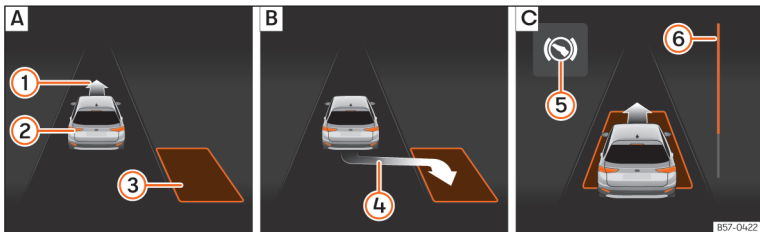
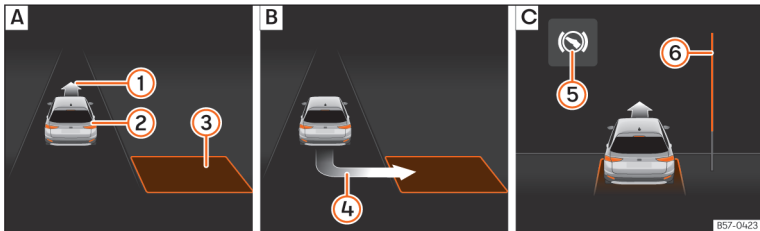

Fig. 141 On the instrument cluster display: angle parking. **A**: Finding a parking space **B**: Parking position. **C**: Manoeuvring.
Fig. 142 On the instrument cluster display: angle parking. **A**: Finding a parking space **B**: Parking position. **C**: Manoeuvring.
- Look at the instrument cluster screen to see if the space has been detected as “appropriate” and if the correct position for parking has been reached »» Fig. 141 **B** or »» Fig. 142 **B**. The space is considered “appropriate” if the instrument cluster display shows the parking indication ④.
- Reverse until the continuous ParkPilot signal sounds; **OR**: reverse until the indication to move forward appears on the instrument panel display >>> Fig. 141 [C] or >>> Fig. 142 [C]; **OR**: reverse until the **Park Assist finished** message appears on the instrument cluster display. The progress bar ⑥ indicates the distance to cover.
- Press the brake pedal until the parking assist system completes the steering wheel turns; **OR**: until the symbol (S) goes out on the instrument panel screen.
- Move forward until the continuous ParkPilot signal sounds; **OR**: move forward until the reverse indication appears on the instrument panel display. The Park Assist system steers the vehicle forward and back until it centres it in the space >>> Fig. 141 [C] or >>> Fig. 142 [C].
The progress bar >>> Fig. 141 ⑥ and >>> Fig. 142 ⑥ on the instrument cluster display shows the relative distance to be covered as a symbol. The greater the distance, the fuller the progress